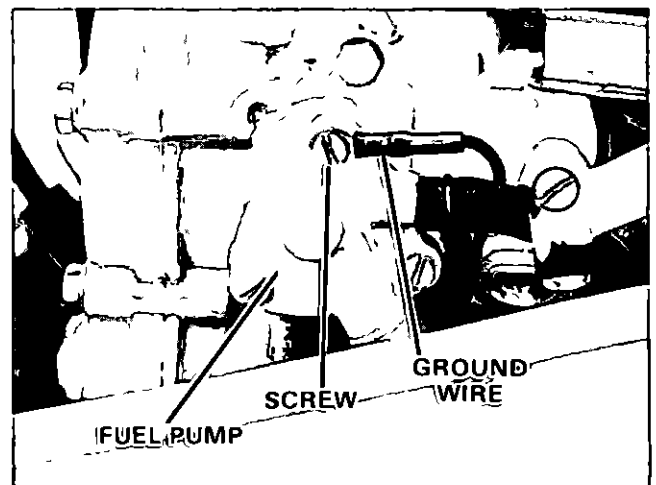

Figure 44. Assembling Throttle Cam and Ground Wire.
- 2 Secure throttle cam to stator plate with screws Magneto ground wire is attached to rear starboard screw as shown in Figure 44